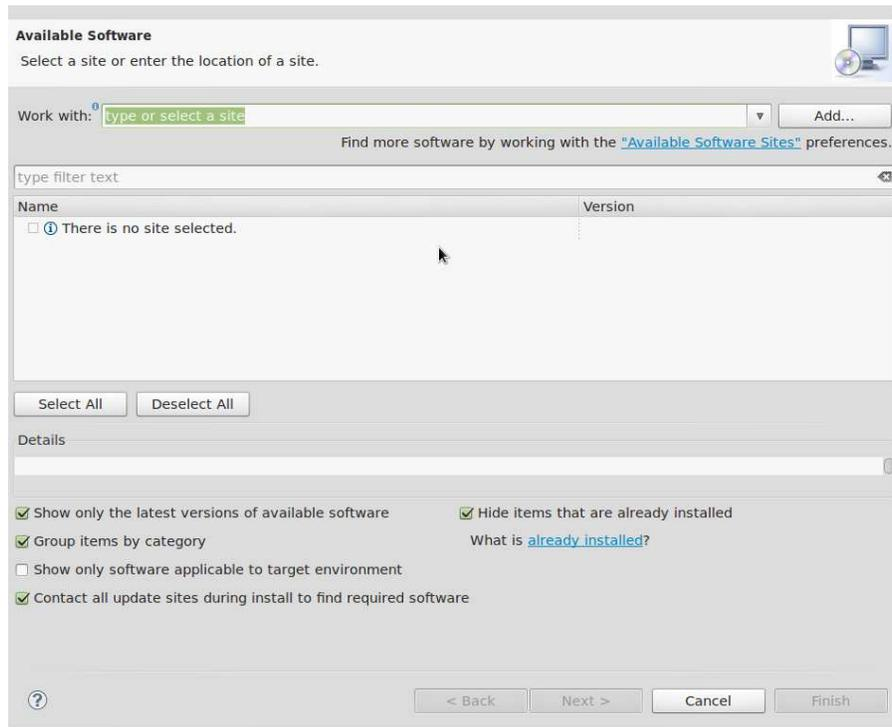

Figure 4. Eclipse - Install New Software (Linux)
- Navigate to Help → Install New Software (see Figure 4).